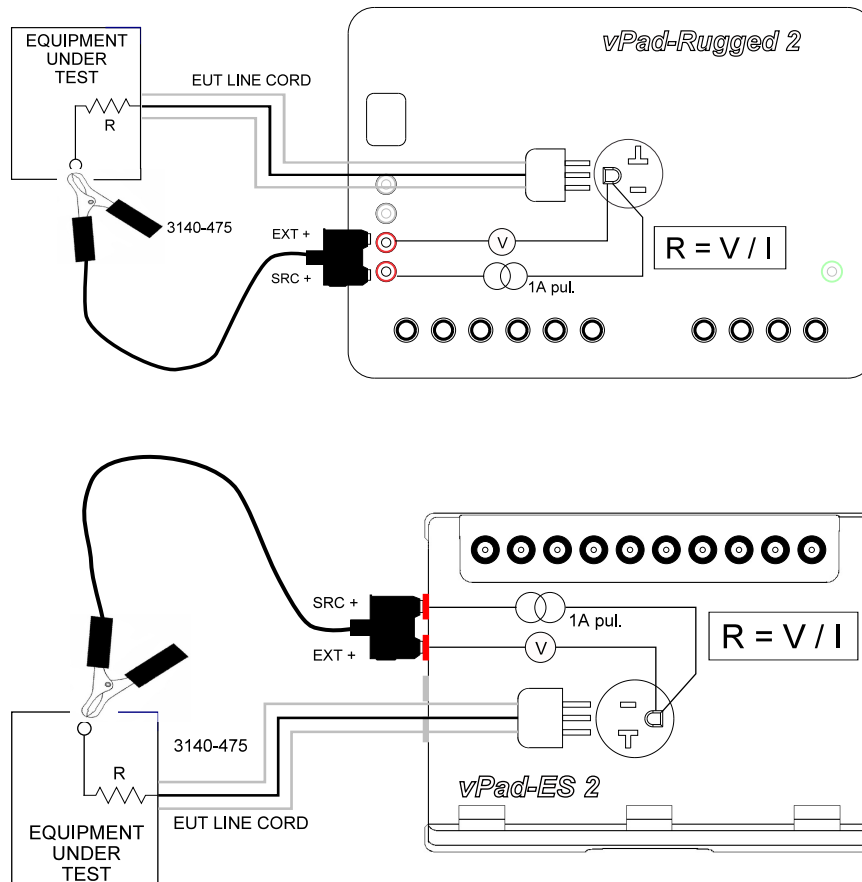
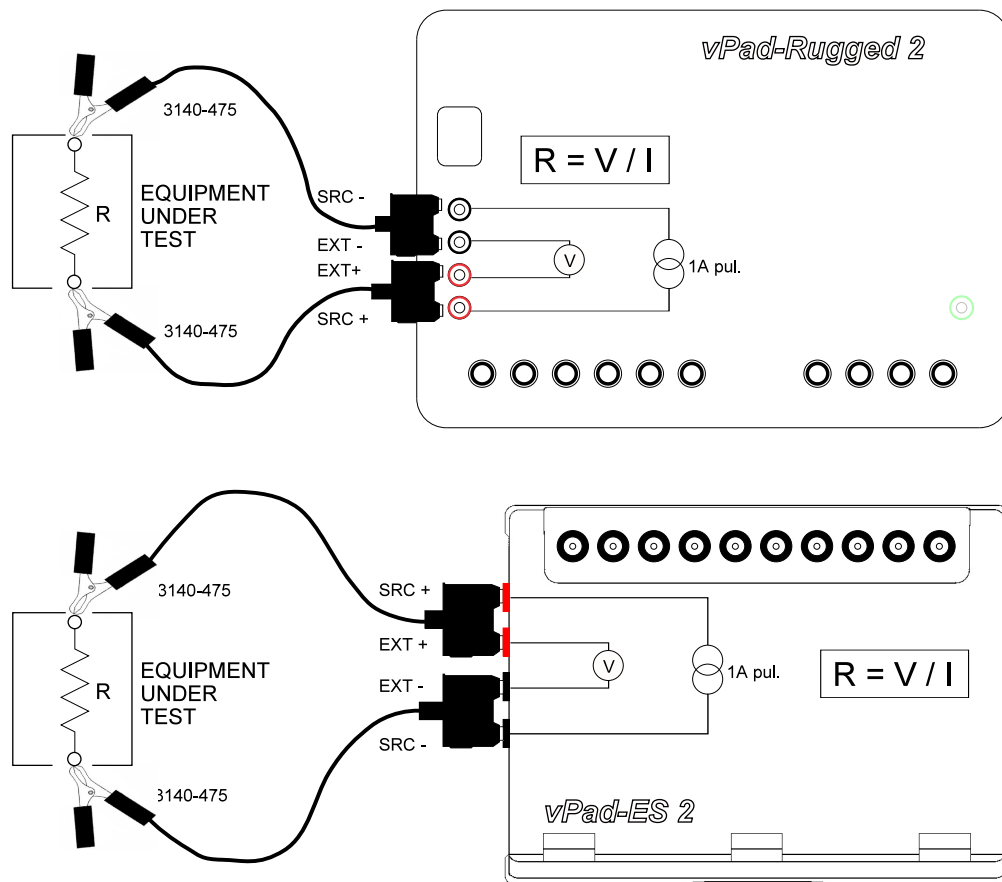

Figure 41 - Protective earth resistance test.
Figure 43 - External resistance test.
To perform the test, connect the EUT line cord to the test receptacle. Plug the vPad Kelvin Cable into **SRC+** and **EXT+** jacks on the left panel of the Analyzer Base Unit, then connect the Kelvin Cable to a protectively earthed terminal or conductive point on the EUT chassis (*Figure 41*).
This test requires two vPad Kelvin Cables, connected as shown in Figure 43. Resistance up to 2 ohms may be measured. As with the line cord test, high resistance or open-circuit conditions are represented by **X.XXX** on the display; inspect the attachment of the Kelvin Cables in this case.
Referring to *Figure 41* and *Figure 43*, vPad safety analyzers use a "four-wire method" when measuring line cord or point-to-point resistance. Not apparent from the schematics are two separate insulated conductors in the Kelvin Cable, one conductor conveying a current (I) to the resistance under test (R), and the other conductor conveying voltage (V), caused by the current (I), to a voltmeter. For a known or measured current (I) and a measured voltage (V), resistance can then be calculated as $R = V/I$. The four-wire method is preferred for measurement of small resistance values, since error caused by internal resistance of the test leads is eliminated.